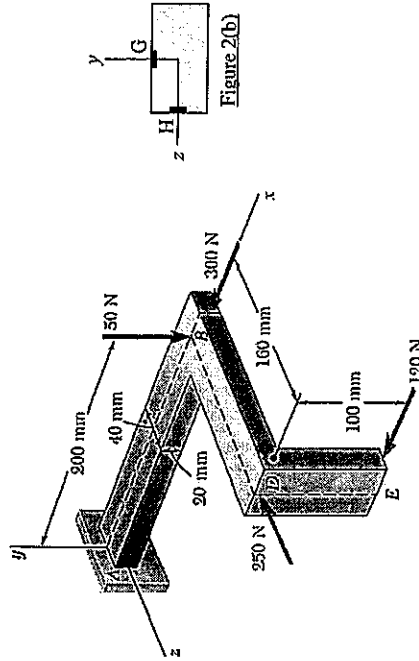

Figure 2(a)
2. A machine component is fully fixed at A is subjected to the four concentrated forces, each of which is parallel to one of the coordinate axes as shown in Figure 2(a). The forces are 300 N , 250 N and 120 N and 300 N respectively. The location of their respective cross sections. The location of elements G and H on the cross section at A is shown in Figure 2(b). Ignore the weight of the component.